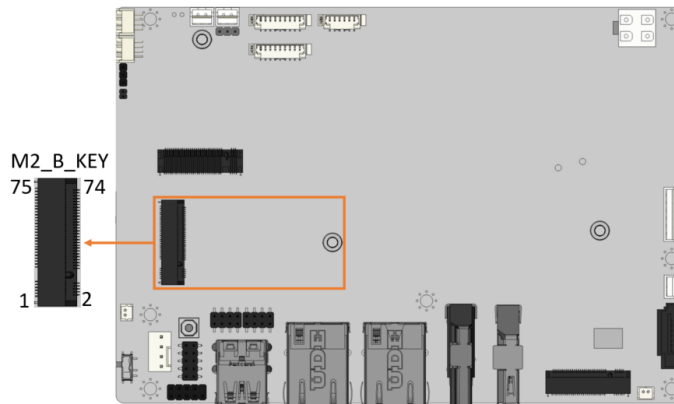

Figure 3-20: M.2 B-key Slot Location
- CN Location:** See **Figure 3-20**